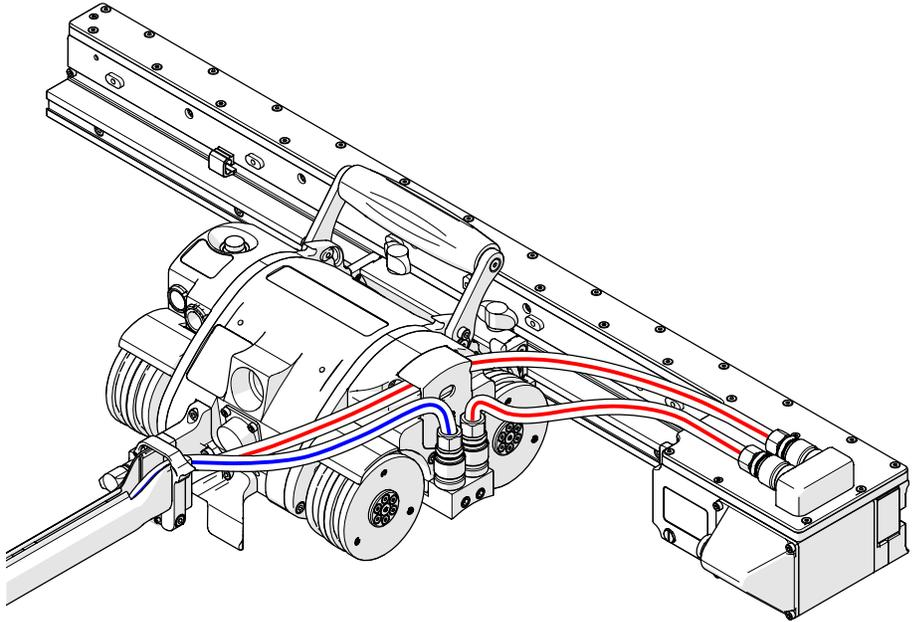

Fig. 42 - Hose routing with raster arm
3. Route the hoses through the cable management system and connect them to the Cooler (*Fig. 42*).